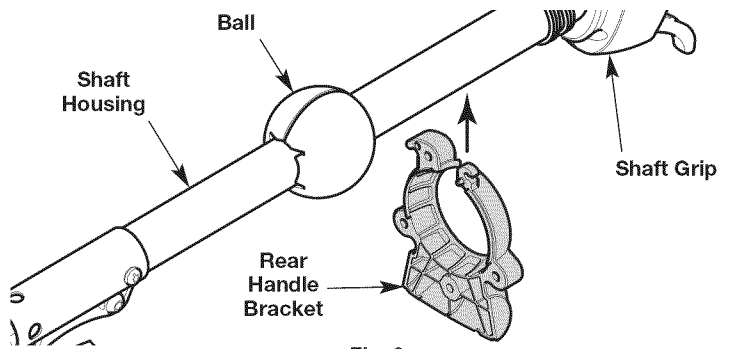

Fig. 3
2. Carefully push the rear handle bracket onto the shaft housing (Fig. 3). Make sure the rear handle bracket is between the ball and the shaft grip (Fig. 3).